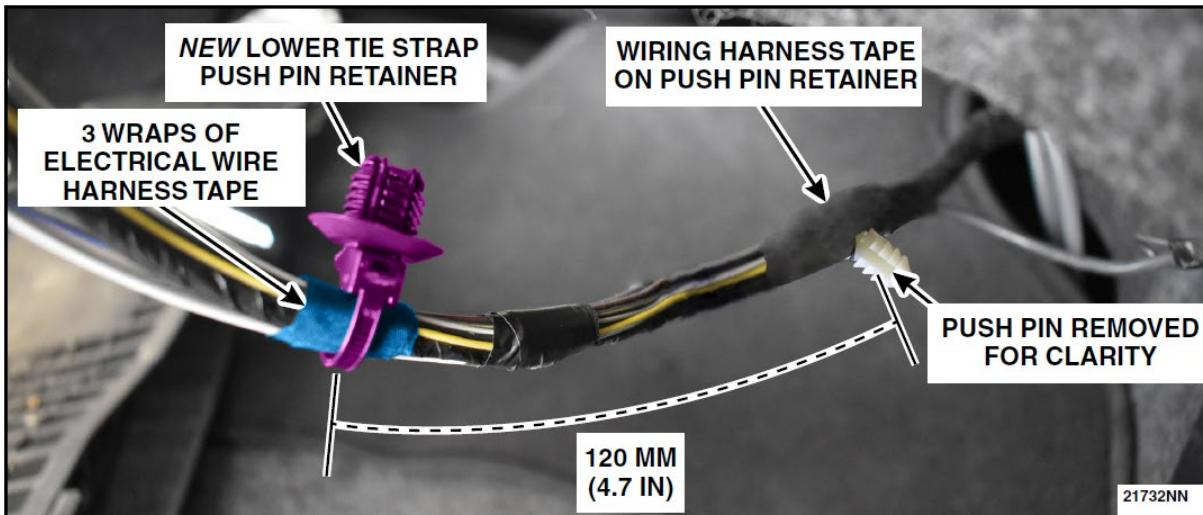

FIGURE 47
66. Measure 120 mm (4.7 in) from the wiring harness tape on push pin retainer and apply 3 wraps of Coroplast® 837 or equivalent electrical wire harness tape. Install a new lower tie strap push pin retainer mid way onto the electrical wire harness tape. Trim any excess from the tie strap. See Figure 47.